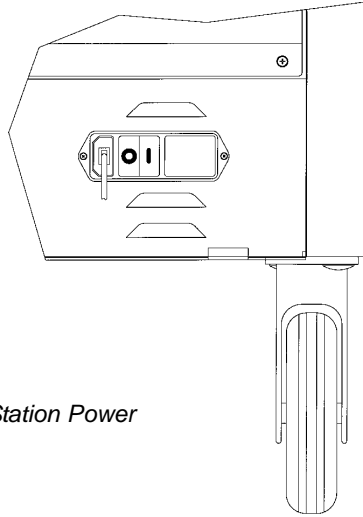

Figure 4.1 Docking Station Power Switch
4.2.2 Connect the TLC-II Docking Station to AC power and turn on the main power and the power to the computer (**Figure 4.1**).